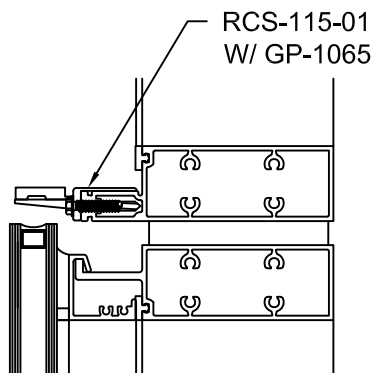

FIGURE 48
- 3.35 Install RCS-115-01 setting chair on upper horizontal using (2) FS-325 fasteners. Install GP-1065 setting block onto chair. **FIGURE 48**